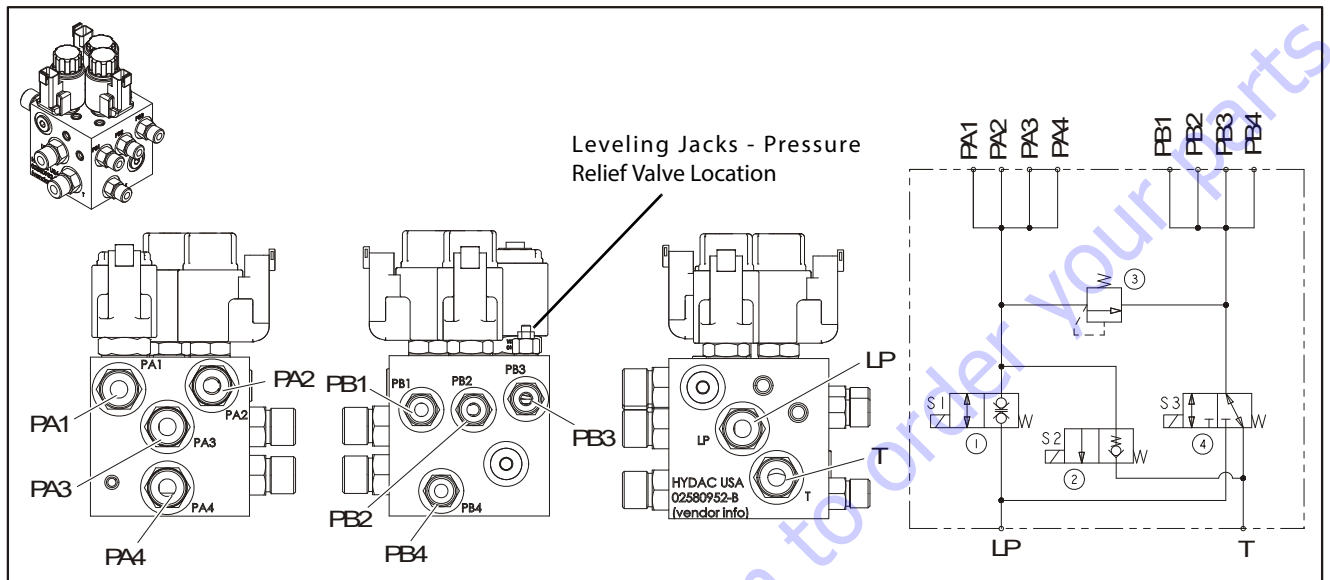

Figure 2-21. Leveling Jacks Directional Valve
4. Adjust the relief valve located on the leveling jack directional valve (refer to Figure 2-21.) clockwise to increase, counter-clockwise to decrease. (The relief valve is on the same face as the solenoid valves).